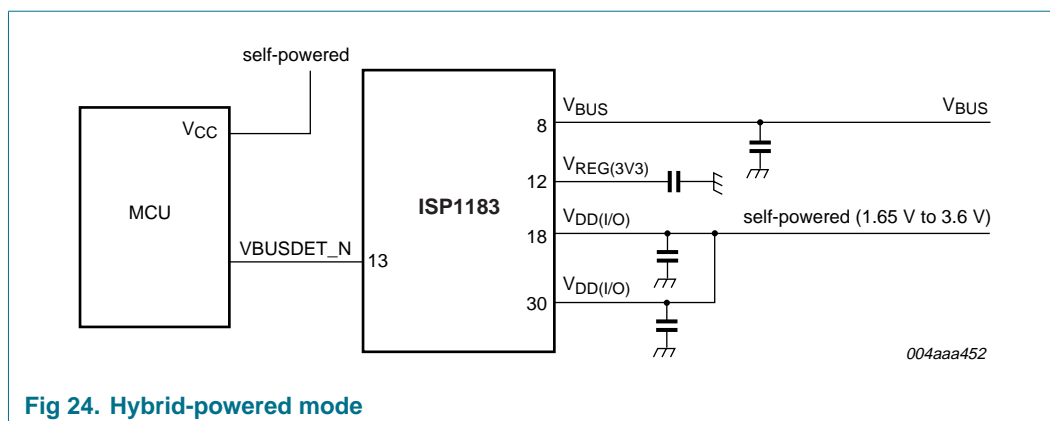

Fig 24. Hybrid-powered mode
- When the USB cable is pulled out, pin VBUSDET_N goes HIGH, thereby indicating to the microcontroller that USB is disconnected. See Figure 24.
- When the USB cable is plugged in, pin VBUSDET_N goes LOW. This indicates to the microcontroller that the USB cable is plugged in. The microcontroller can then prepare to reconfigure all registers of the ISP1183. See Figure 24.